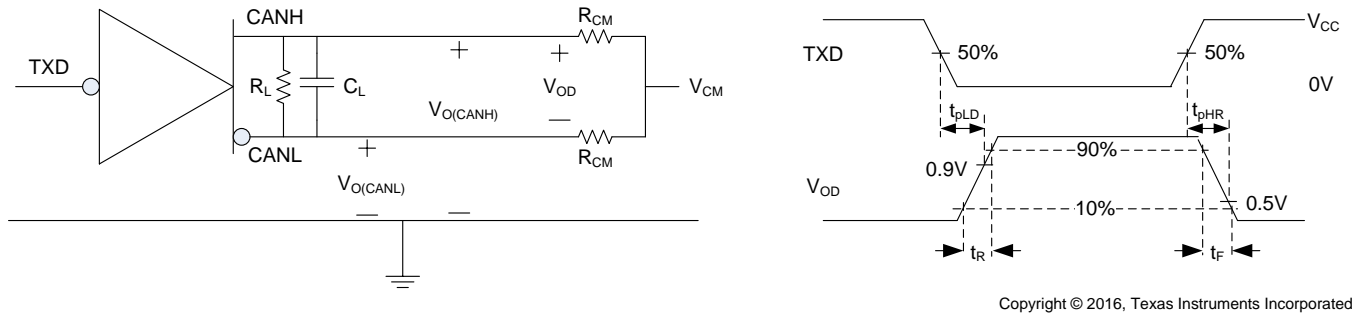

Figure 5. Driver Test Circuit and Measurement
|   |   | Normal mode (recessive)   | See Figure 5, TXD = $V_{CC}$ , $R_L = 50\ \Omega$ , $C_L =$ open, $R_{CM} =$ open, $S = 0V$     | 1.5                 | 2.5  |               |      |
|   |   | Silent mode   | See Figure 5, TXD = $V_{CC}$ , $R_L = 50\ \Omega$ , $C_L =$ open, $R_{CM} =$ open, $S = V_{CC}$ | 1.5                 | 2.5  |               |      |
| $V_{O(DOM)}$                                  | Bus output voltage (dominant)   | CANH   | See <a href="#">Figure 13</a> and <a href="#">Figure 5</a> , TXD = 0 V, S = 0 V, $50 \Omega \leq R_L \leq 65 \Omega$ , $C_L = \text{open}$ , $R_{CM} = \text{open}$                          |                    | 2.75 | 4.5                 | V  |
| $V_{O(REC)}$                                  | Bus output voltage (recessive)  | CANH and CANL  | See <a href="#">Figure 13</a> and <a href="#">Figure 5</a> , TXD = $V_{CC}$ , $V_{IO} = V_{CC}$ , S = $V_{CC}$ or 0 V (2) , $R_L = \text{open}$ (no load), $R_{CM} = \text{open}$ |                    | 2    | $0.5 \times V_{CC}$ | 3  |
| $V_{OD(DOM)}$                                 | Differential output voltage (dominant)  | CANH - CANL  | See <a href="#">Figure 13</a> and <a href="#">Figure 5</a> , TXD = 0 V, S = 0 V, $45 \Omega \leq R_L < 50 \Omega$ , $C_L = \text{open}$ , $R_{CM} = \text{open}$                             |                    | 1.4  | 3                   | V  |
|   |   |  | See <a href="#">Figure 13</a> and <a href="#">Figure 5</a> , TXD = 0 V, S = 0 V, $50 \Omega \leq R_L \leq 65 \Omega$ , $C_L = \text{open}$ , $R_{CM} = \text{open}$                          |                    | 1.5  | 3                   |    |
|   |   |  | See <a href="#">Figure 13</a> and <a href="#">Figure 5</a> , TXD = 0 V, S = 0 V, $R_L = 2240 \Omega$ , $C_L = \text{open}$ , $R_{CM} = \text{open}$  |                    | 1.5  | 5                   |    |
| $V_{OD(REC)}$                                 | Differential output voltage (recessive)   | CANH - CANL  | See <a href="#">Figure 13</a> and <a href="#">Figure 5</a> , TXD = $V_{CC}$ , S = 0 V, $R_L = 60 \Omega$ , $C_L = \text{open}$ , $R_{CM} = \text{open}$                                      |                    | -120 | 12                  | mV |
|   |   |  | See <a href="#">Figure 13</a> and <a href="#">Figure 5</a> , TXD = $V_{CC}$ , S = 0 V, $R_L = \text{open}$ (no load), $C_L = \text{open}$ , $R_{CM} = \text{open}$                           |                    | -50  | 50                  |    |
| $V_{SYM}$                                     | Transient symmetry (dominant or recessive) ( $V_{O(CANH)} + V_{O(CANL)} / V_{CC}$ ) | See <a href="#">Figure 5</a> and <a href="#">Figure 15</a> , S at 0 V, $R_{term} = 60 \Omega$ , $C_{split} = 4.7$ nF, $C_L = \text{open}$ , $R_{CM} = \text{open}$ , $T_{XD} = 250$ kHz, 1 MHz |  | 0.9                | 1.1  | V/V                 |    |
| $V_{SYM\_DC}$                                 | DC Output symmetry (dominant or recessive) ( $V_{CC} - V_{O(CANH)} - V_{O(CANL)}$ ) | See <a href="#">Figure 5</a> and , S = 0 V, $R_L = 60 \Omega$ , $C_L = \text{open}$ , $R_{CM} = \text{open}$   |  | -0.4               | 0.4  | V                   |    |
| $t_{\text{pHR}}$                          | Propagation delay time, high TXD to driver recessive (dominant to recessive)                         | See <a href="#">Figure 5</a> , $S = 0\text{ V}$ ,$R_L = 60\ \Omega$ ,$C_L = 100\ \text{pF}$ , $R_{\text{CM}} = \text{open}$  |     | 75                 |     | ns            |